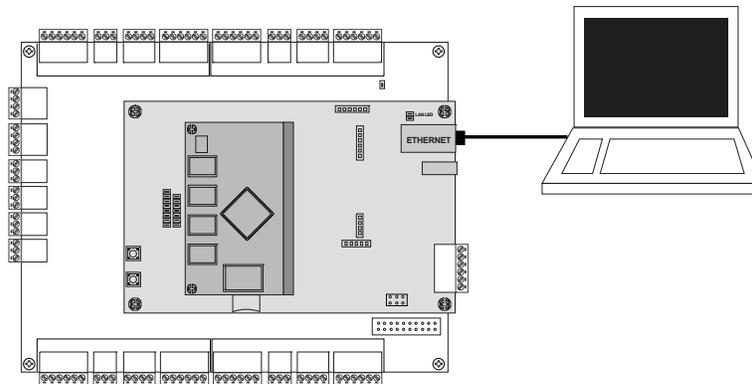

Figure 7.1. Connecting to the Control Panel
1. Connect your programming computer directly to the Ethernet port of the controller as shown in Figure 7.1. (You may also connect the computer and controller to an Ethernet Switch.)